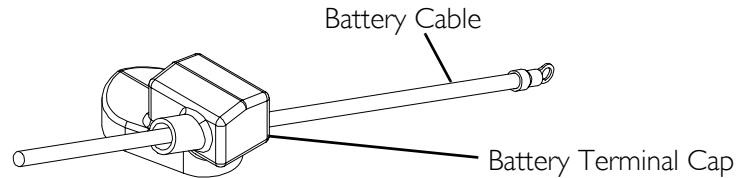

FIGURE 11.3 Connecting Battery Cables
NOTE: For this procedure, refer to FIGURE 11.3 and FIGURE 11.4.
1. Install RED battery terminal cap onto RED battery cable (FIGURE 11.3).
2. Install GREY battery terminal cap onto BLACK battery cable (FIGURE 11.3).
6. Slide terminal cap(s) down battery cable(s) and onto battery clamps (FIGURE 11.3).
4. Slide terminal cap(s) UP on the battery cable(s) (FIGURE 11.3).